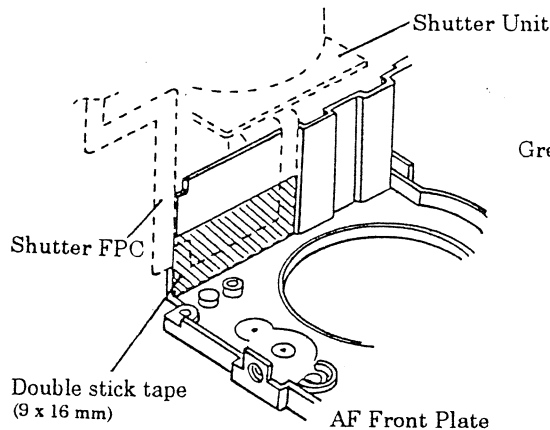

Fig.27
- 10) Attach double stick tape (9 x 16 mm) on the inside of the AF Front Plate along the corner. (See Fig.27)
- 11) Attach the Shutter FPC on the Double stick tape. (in the position as shown in broken lines in Fig.27)